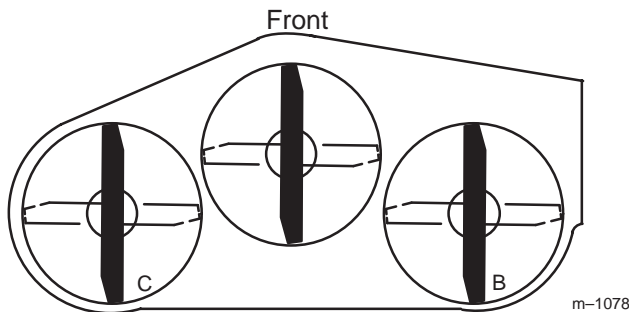
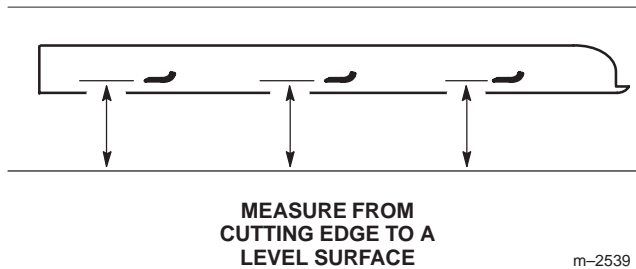

Figure 66
Figure 67
1. Position the **right** blade front-to-rear (Fig. 66).
2. Measure the right blade at the **B** location (Fig. 66), from a level surface to the cutting edge of the blade tip (Fig. 67).
4. Position the **left** blade front-to-rear (Fig. 66).
5. Measure the left blade at the **C** location (Fig. 66), from a level surface to the cutting edge of the blade tip (Fig. 67).